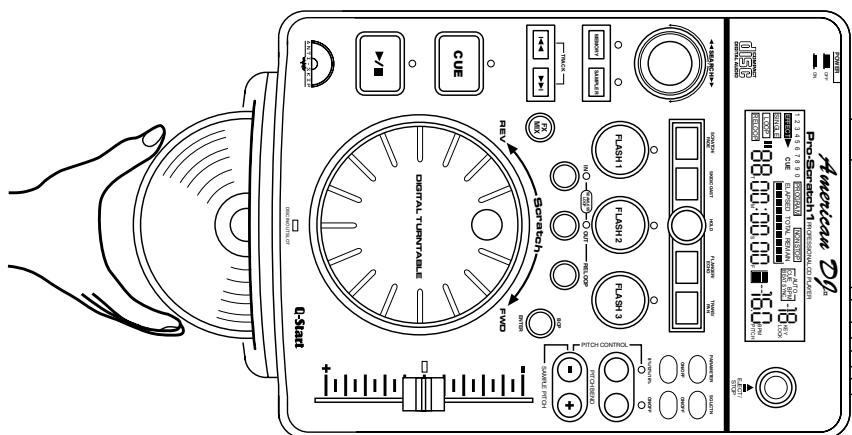
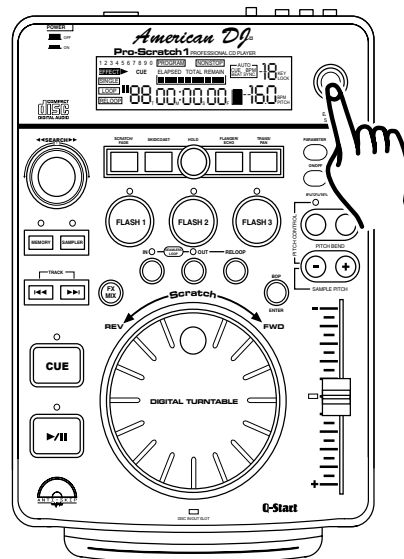

Figure 7: When inserting a disc always hold the disc by its edges and load the disc label side up.
Figure 8
The Pro Scratch 1 can only play regular 5 inch CDs. 3 inch, odd shaped, and oval CDs are not compatible. When loading a CD into the player always hold the disc by its edge (see Figure 7). Load the disc label side up and slide it in the disc slot. Never touch the signal surface (the glossy side). To remove a disc from the slot press the **EJECT/STOP BUTTON (31)**, see Figure 8.